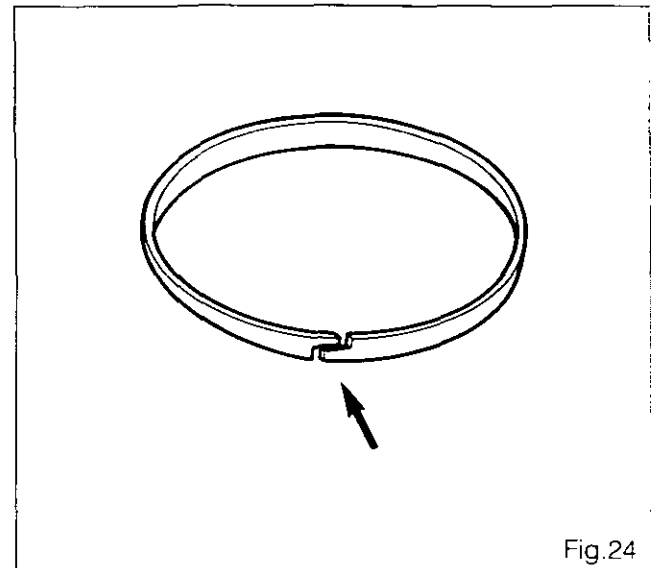

Fig.24
82. Refit washer (38) and circlip (37).
- their ends are correctly overlapped (Fig.24).
86. Grease washer (39) and fit it into cover (27).
87. Fit new O-rings (1) and (2), (19) and (51).